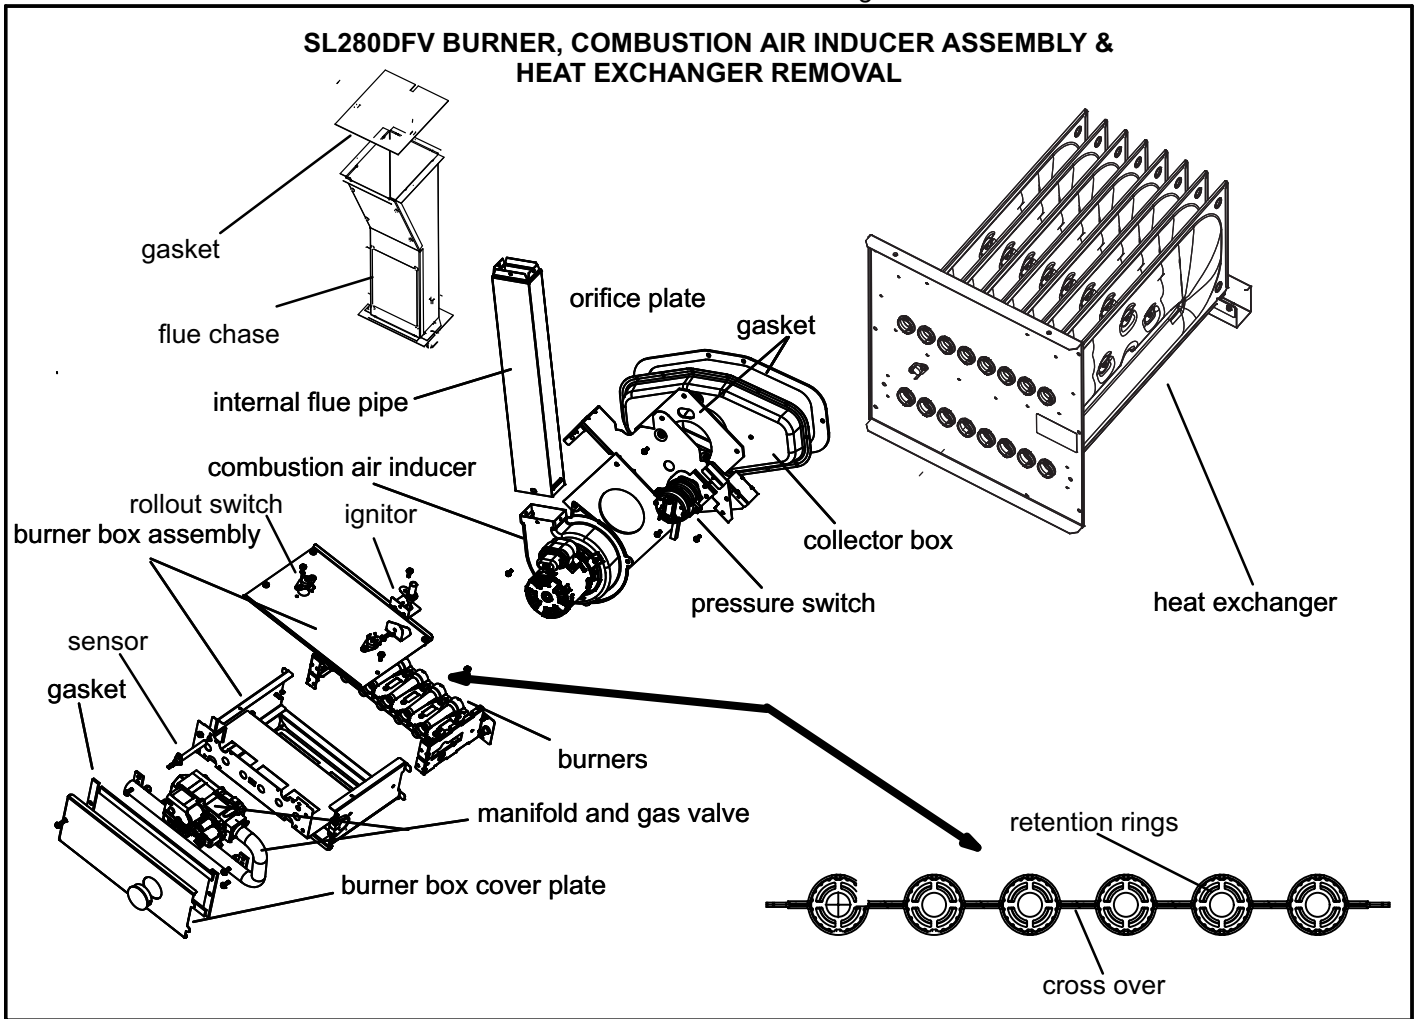

FIGURE 27
- 11- To clean burners, run a vacuum cleaner with a soft brush attachment over the face of burners. Visually inspect inside the burners and crossovers for any blockage caused by foreign matter. Remove any blockage. Figure 27 shows burner detail.